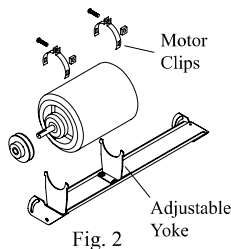

Fig. 2
- **Mount motor.** Install blower motor in the motor mount yokes, adjusting the yoke if necessary. Fasten with the provided mounting clips (see Fig. 2).